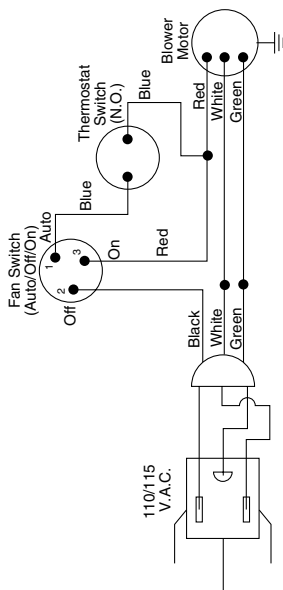

Figure 18 - Wiring Diagram For Blower Accessory Built-In Installation
- A licensed electrician must follow the wiring diagram to connect incoming electrical supply to fan kit wiring harness (see Figure 18).